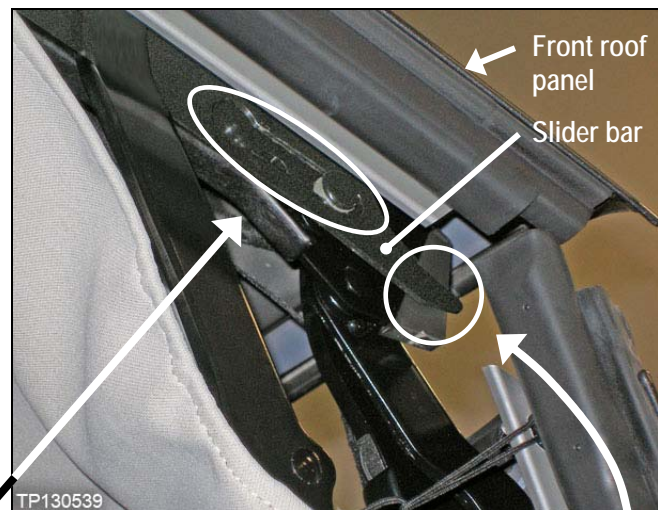

Figure 2b
2. Locate the slider bars between the front and center roof panels on both sides of the roof (see Figure 2b).